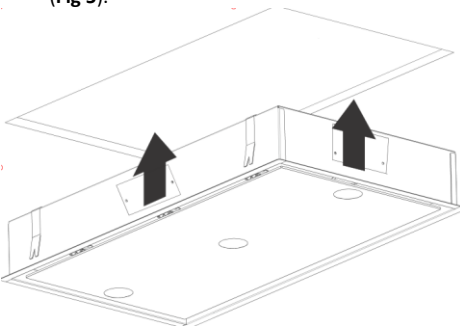

Fig 5
3. Insert the extractor into the hole in the ceiling (Fig 5).